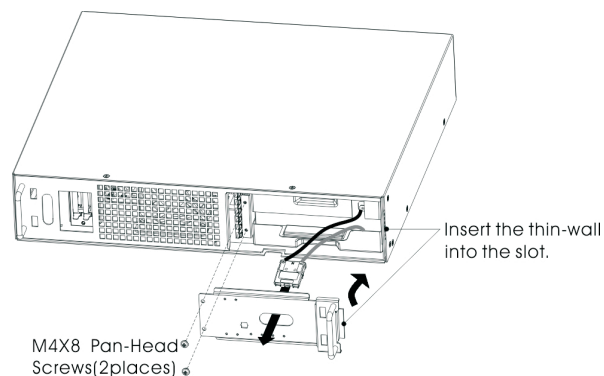

Fig.4 Installation for battery pack baffle(UPS)
3. Remove the connection cables between battery box and UPS. Release the screw of the baffle of the battery pack as the Fig4 shows, then remove the baffle from the left.